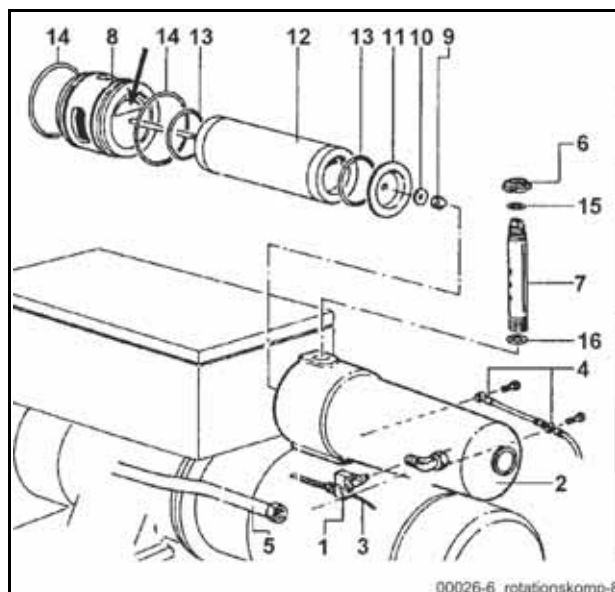

Fig. 355 Oil separator cartridge
- Disconnect the plug for the solenoid valve (1) on the separator housing (2) (Fig. 355) and loosen the air hose (3).
- Loosen the oil return valve (4) as described above.
- Remove the compressed air tube (5) from the separator housing.
- Remove the radial groove nut (6).